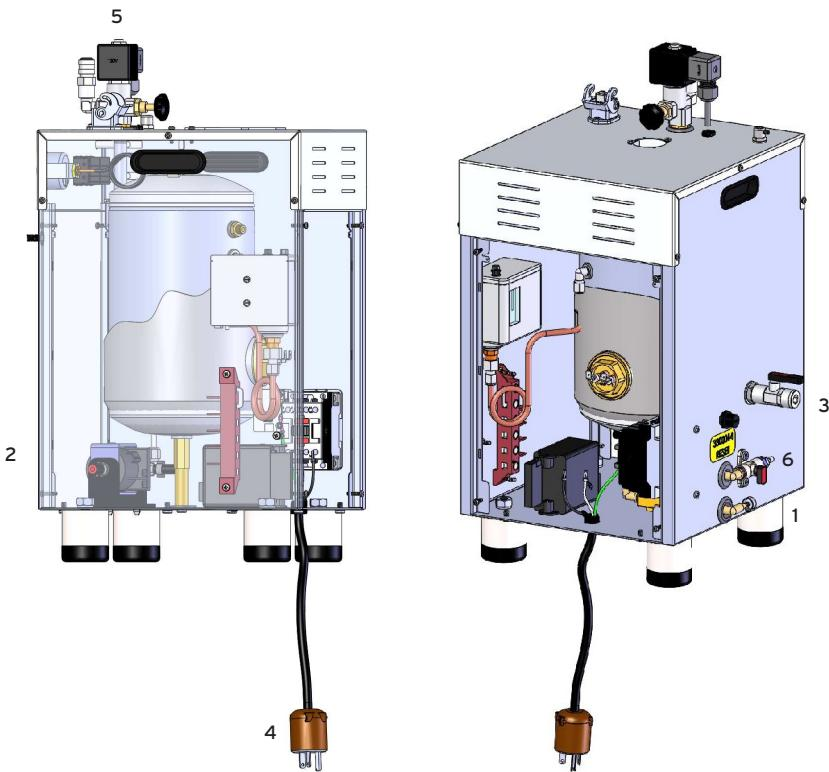

Fig. 5
1. Water connection (tap with hose holder); the steam generator can be connected to the tap with hose holder labelled WATER INLET (fig. 5 #1), placed on the Boiler, via a rubber tube which must have a pressure capacity of at least 100 lbs. This rubber tube must be fixed tightly with 2 hose clamps.
3. After switching on the Boiler (A) and the irons and the steam switch (B), wait for the Boiler green pilot light to switch off (C) and for the pressure gauge to indicate 50-60 lbs. At this point press the steam button 3 or 4 times, so that the steam comes out: this must be carried out in order to heat up the hose that delivers steam to the iron steam wand/nozzle. This prevents water leakage (the steam iron must always be held in such a way as not to harm the operator).
4. To adjust steam flow, regulate the steam adjustment tap (fig. 5 #6: solenoid valve).
5. The Boiler is now ready for use. During use, the "steam ready" pilot light switches on and off (C).
- Insert the silicon hose on the water container valve (fig. 5 #6) and place the opposite end into the water tank.
- Insert the other silicon hose on the water inlet (fig. 5 #1), placing the other end into the water tank.